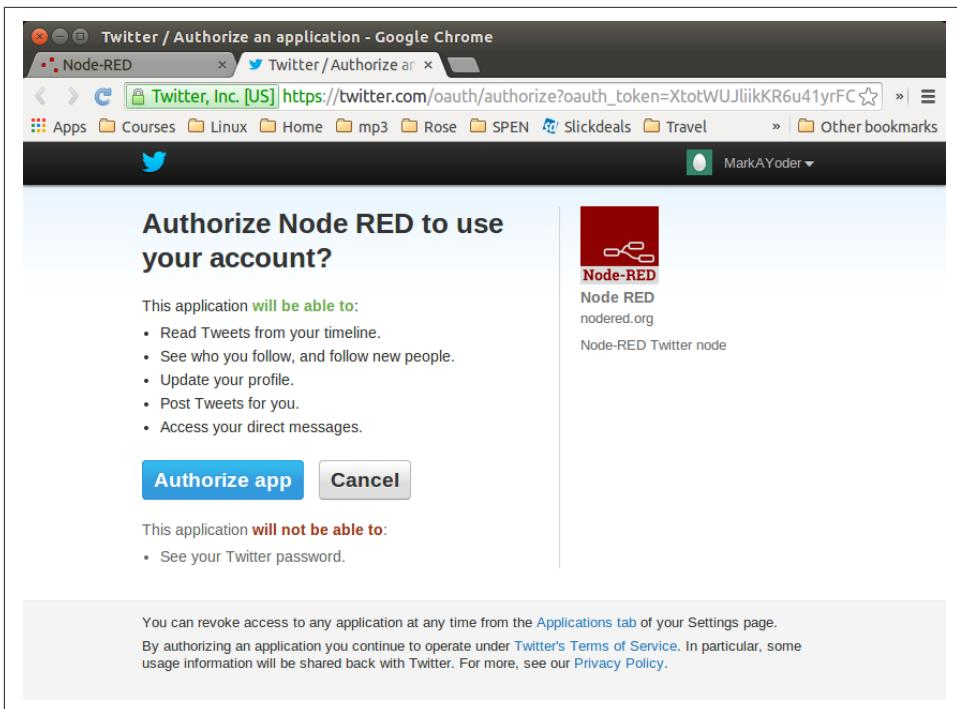

Figure 6-11. Node-RED Twitter site authorization
6. Log in to Twitter and click the “Authorize app” button (Figure 6-11).